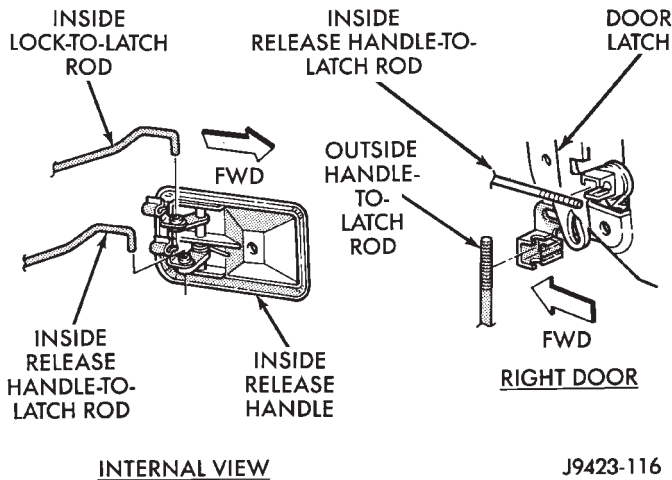

Fig. 9 Inside Door Handle and Rods
- (1) Position the handle on the door.
- (2) Install the attaching screws.
- (3) Close the jaws on the latch.
- (4) Push the lock-to-latch rod forward toward the inside release handle. Check to ensure the lock lever on the latch is in the unlocked position.
- (5) Position the threaded end of the lock rod over the lever clip on the latch and push the rod into the lock lever clip (Fig. 9). The lock lever should have a full sweep of travel when activated by the inside control button. It should not bind or be stiff.
- (7) Position the threaded end of the release lever rod over the release lever clip on the latch and push the rod into the release lever clip. The release lever on the latch should be resting against the stop with no preload after the rod is engaged in the retaining clip. Visual observation will reveal any preload. If preload is noted, disconnect the release lever rod and install it again to eliminate the preload.
- (8) Pull up on the outside handle release rod to position it as far up as possible and push the rod into the release lever clip on the latch. The release lever on the latch should be resting against stop with no preload after the rod is engaged in the retaining clip.
- (9) Close the latch jaws.
- (10) Activate the inside lock control button. It should not bind or be stiff, if either condition exists, the latch should be replaced.
- (11) With the inside lock control button in the unlock position, pull the inside door handle to open the jaws on the latch and close the door.
- (2) Pull the handle outward and detach the lock and release rods from handle (Fig. 9).
- (1) Position the handle adjacent to the rods in the upper trim panel opening and attach the rods to the handle (Fig. 9).